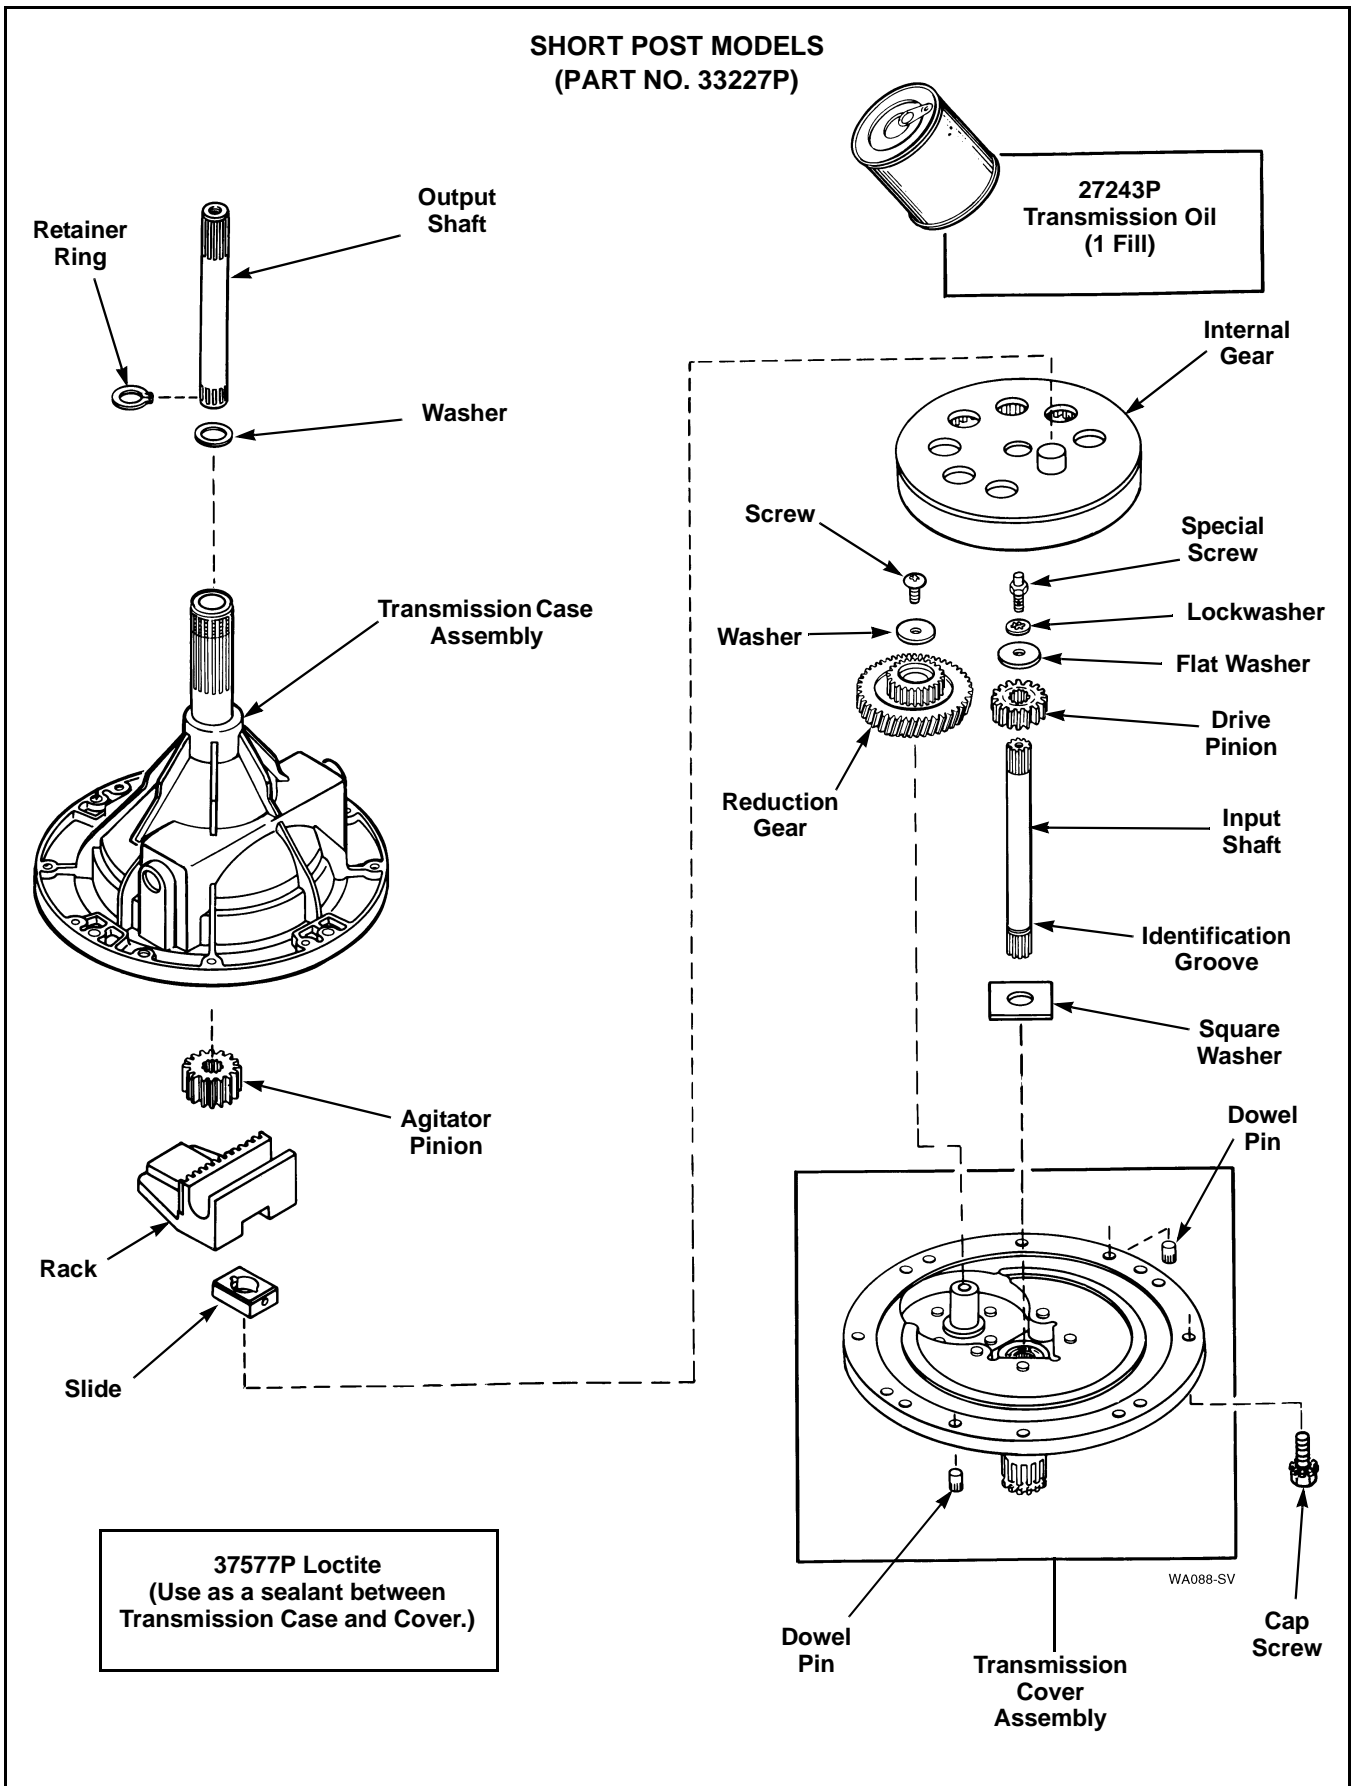

Figure 48
Depending on your model, refer to *Figure 48, 49 or 50* for assembly sequence.
**IMPORTANT:** Short Post Models – End of shaft with identification groove must be facing outward. Refer to *Figure 48*. This is the end that will mate with the helix.